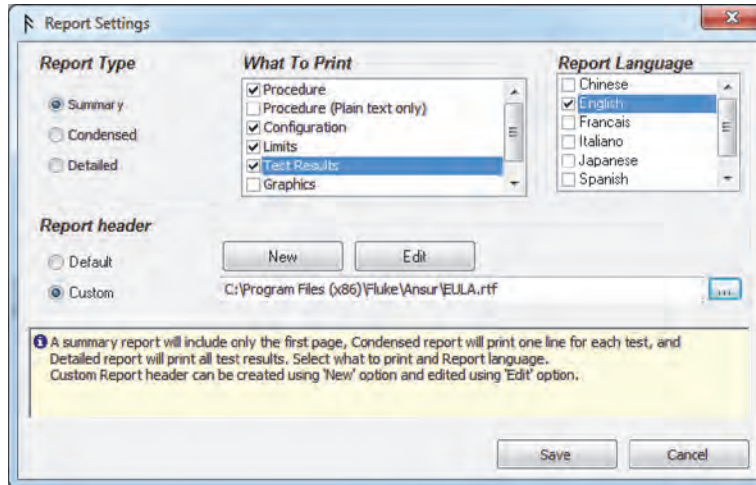

Figure 3-11. Report Settings Window
1. Click **File | Edit report settings** on the main menu bar or click the **Edit report settings** icon (📄) on the main toolbar. The Report Settings window shown in Figure 3-11 opens.